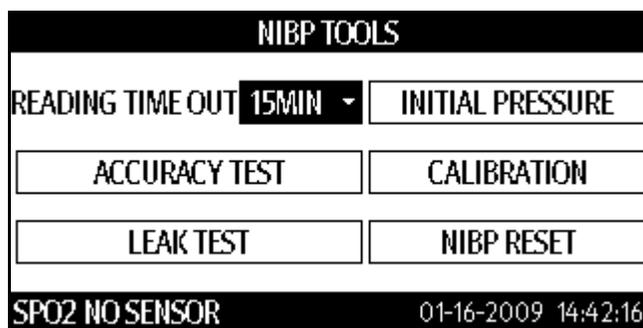

FIGURE 6-3 NIBP TOOLS dialog
6. Press  (16) or  (19) to highlight **NIBP TOOLS**.
7. Once **NIBP TOOLS** is highlighted, press  (18) to display the **NIBP TOOLS** dialog.
8. Press  (16) or  (19) to highlight **CALIBRATION**, as shown in FIGURE 6-3.
7. Once **NIBP TOOLS** is highlighted, press  to display the **NIBP TOOLS** dialog as shown in FIGURE 6-3.
8. Once **NIBP TOOLS** is highlighted, press  to display the **NIBP TOOLS** dialog as shown in FIGURE 6-3.